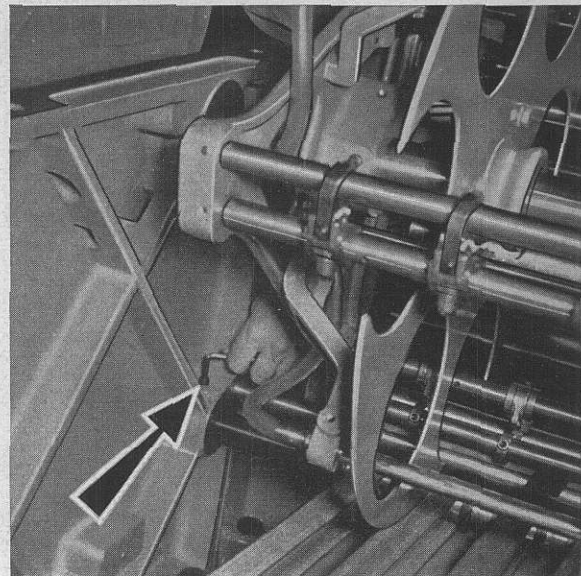

Fig. 25
- b) remove locking screw of the forward roller pin inside the right hand shoulder (fig. 25);